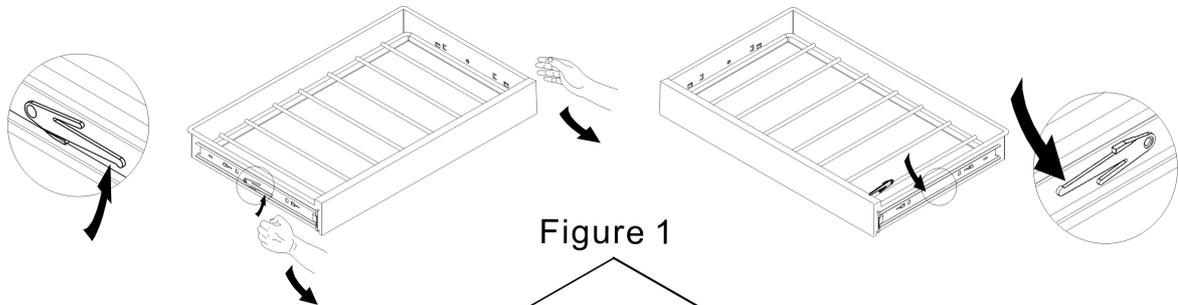

Figure 1
- Pull the racks out flatly and press the button in each side. (See figure 1)